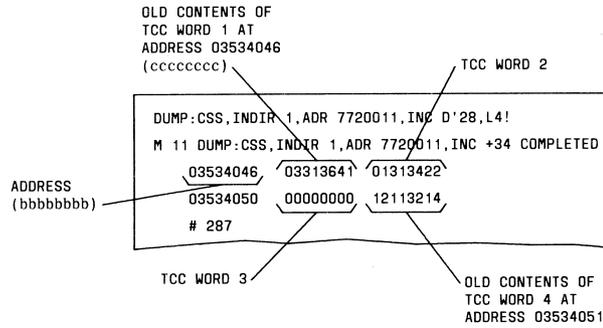

Fig. 21 — Example of DUMP of TCC Translation Words
- (f) From DUMP:CSS output message, determine address of TCC translation words (Fig. 21) (results = bbbbbb). Retain results for use in Substeps (h) and (i).
- (g) From DUMP:CSS output message, also determine old data (contents) contained in TCC translation words (Fig. 21) (results = cccccc). Save results for use in Substeps (h) and (i).